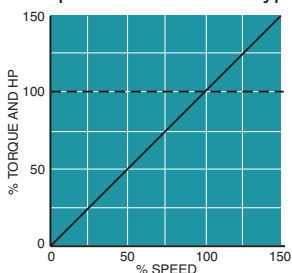

Figure 20. Constant Torque Horsepower
1. Constant Torque (Figure 20)